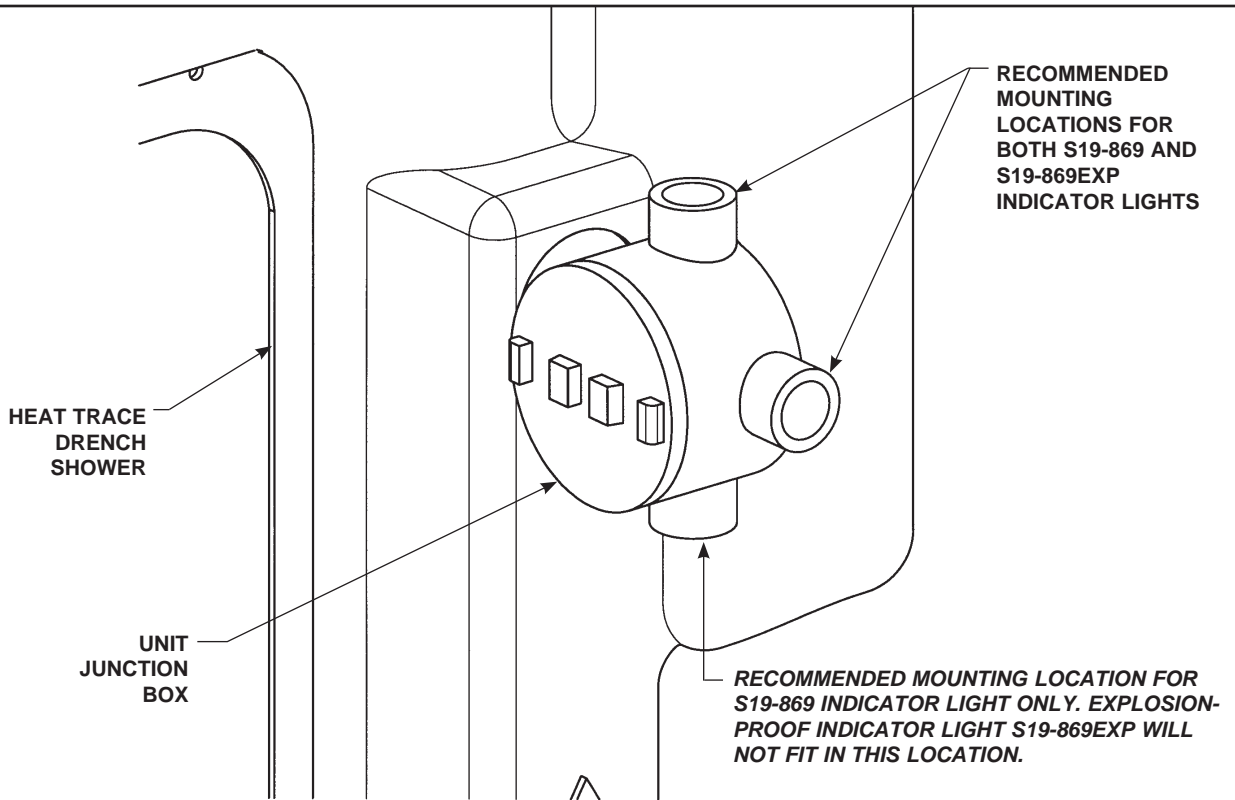

Figure 1
- The indicator light may be mounted directly to the unit junction box at one of the locations shown in Figure 1 below.